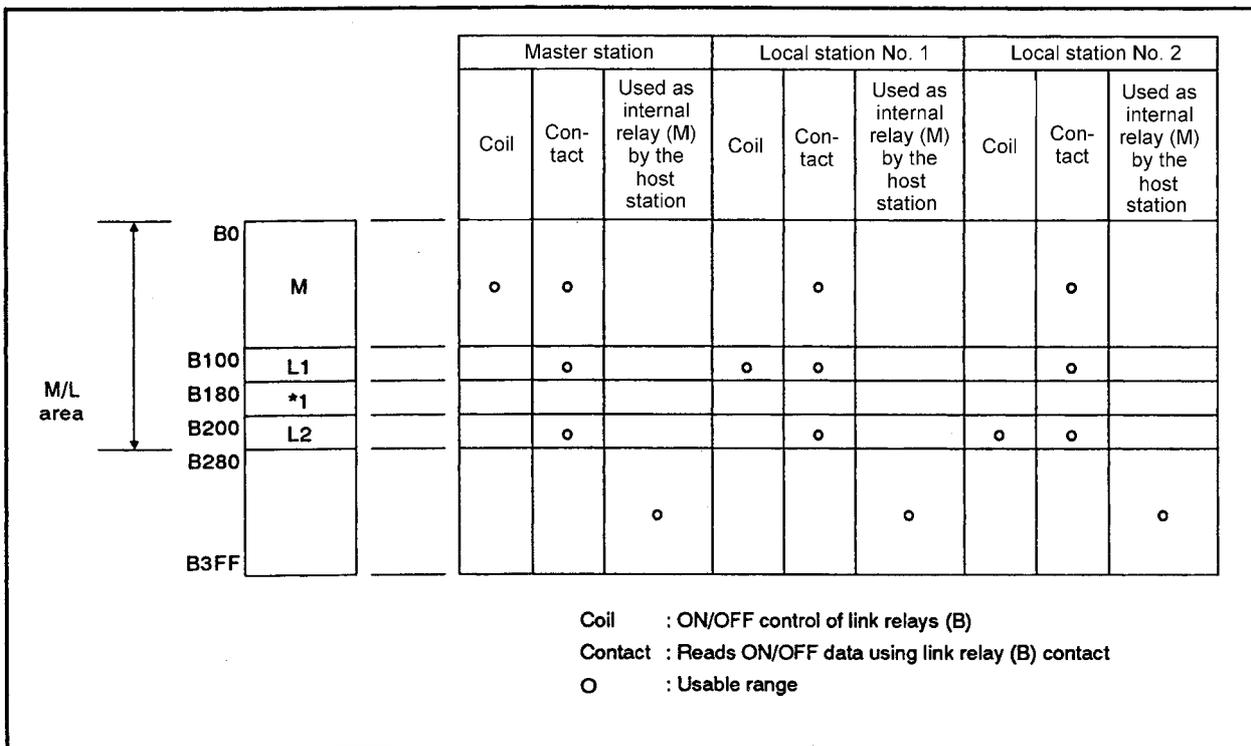

Fig 7.9 Link relay (B) assignment example
(a) Fig 7.9 shows the case when assigning 256 points to the master station, 128 points to local station No.1, 128 points to local station No.2, and 128 points empty area between local station No.1 and local station No.2.
(b) The empty area marked with *1 in the M/L area in Fig 7.9 cannot be used as a substitute for internal relay (M) in the master station and all local stations. The M/L area is the range (B0 to 27F) from the minimum device number to the maximum device number assigned by the link parameters.
- (2) Assignment of link register (W)